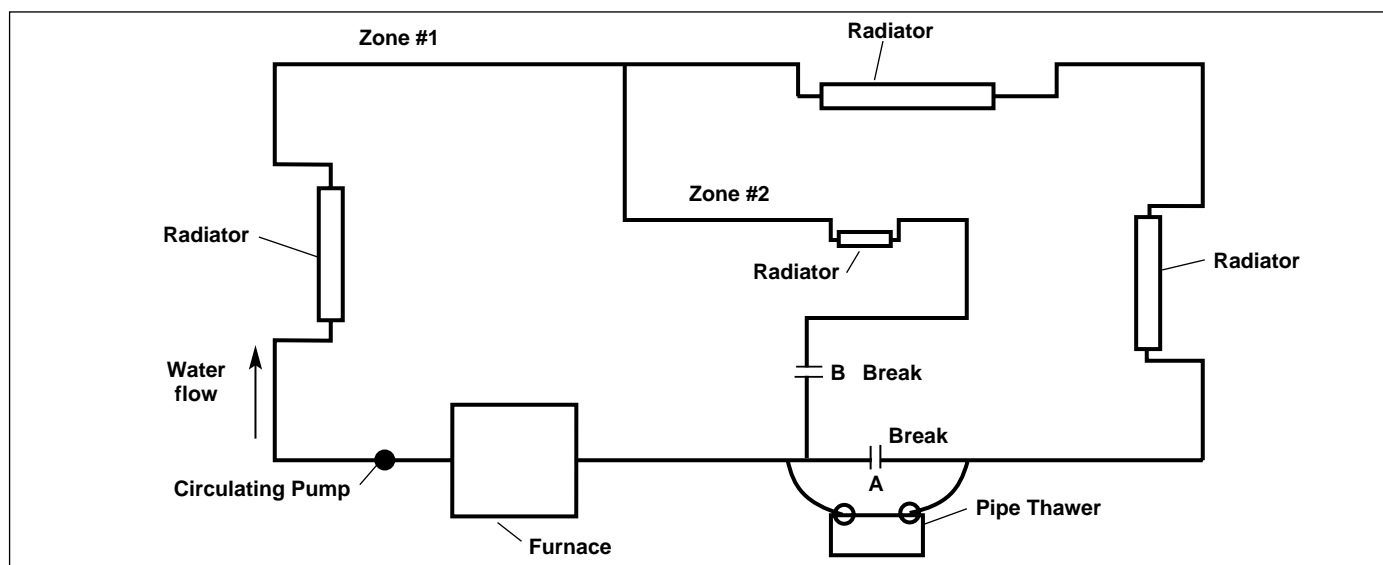

Figure 7 – Multi Zoned System
NOTE! The electrical output current of both the KT-190 and KT-200 can take two paths. The shortest distance between the clamps, or the long path around the pipe loop. Therefore, in some systems it is required to break the pipe to eliminate the short path (*Figure 7*).
2. Break the pipe at Point A and place pipe clamps as shown in *Figure 7*. This forces the current to flow through Zone #1. Use a container to collect the water.